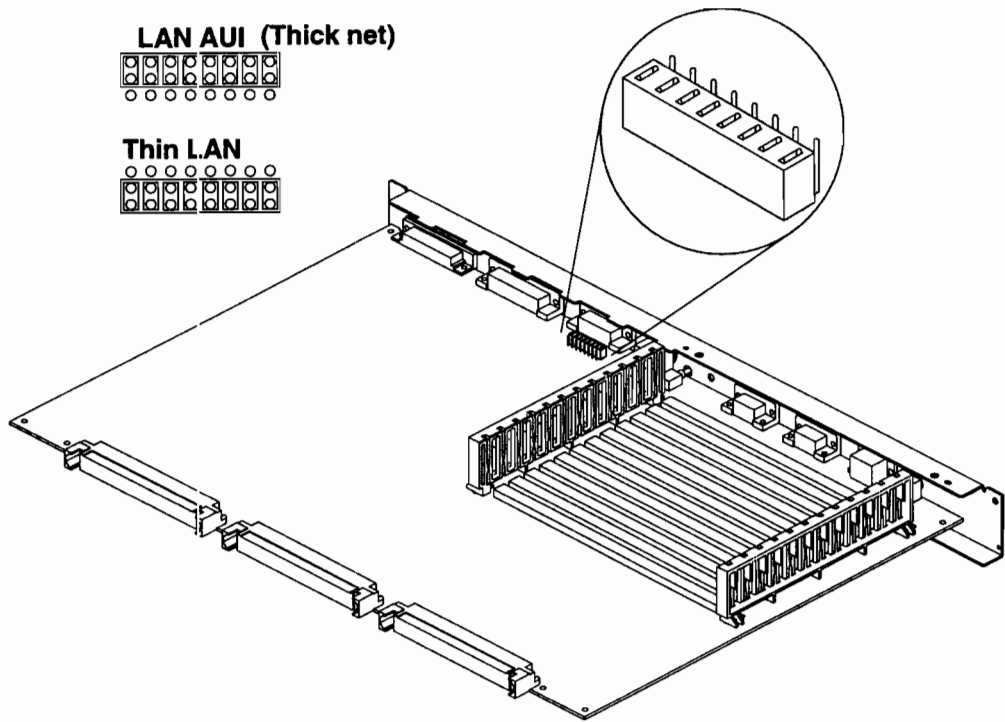

Figure B-10. LAN Configuration Jumper
2. Use a small pair of needle-nose pliers or a DIP extractor tool to change the jumper. (Figure B-10 shows the location and settings of the jumper.)